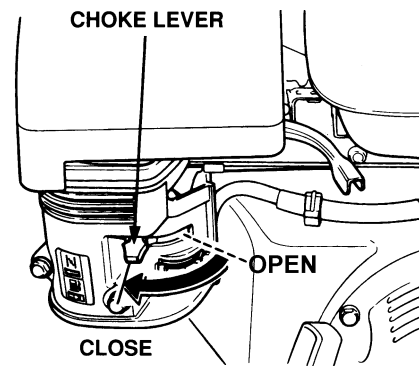

Figure 19. Choke Lever
6. Place the **Choke Lever** (Figure 19) in the "OPEN" position
9. If the engine has started, slowly return the choke lever (Figure 19) to the **CLOSED** position. If the engine has not started repeat steps 1 through 5.